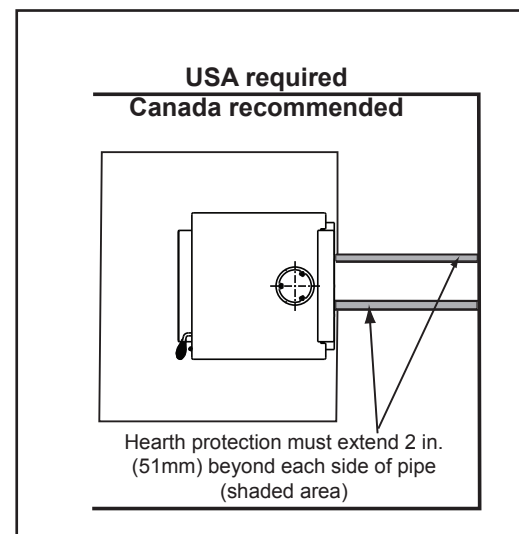

Figure 31.4
**\*EXCEPTION:** Non-combustible floor protections must extend beneath the flue pipe when installed with horizontal venting and extend 2 inches (51mm) beyond each side. **Figure 31.4.**